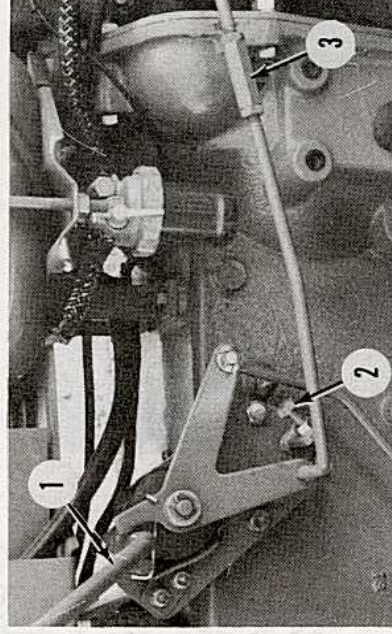

Fig. 125—View of throttle linkage typical of 1100, 1110, 1200, 1210 and 1300 models. Refer to text for adjustment procedure.
65. To adjust engine speed, first start engine and operate until warm. Move throttle lever to slow idle detent position. Engine speed should be 750-850 rpm. If low idle speed is incorrect, loosen locknuts and turn throttle control rod turnbuckle (3—Fig. 125) as required until correct speed is obtained.
loosen locknut and turn stop bolt (Fig. 125) as required until correct maximum speed is obtained.